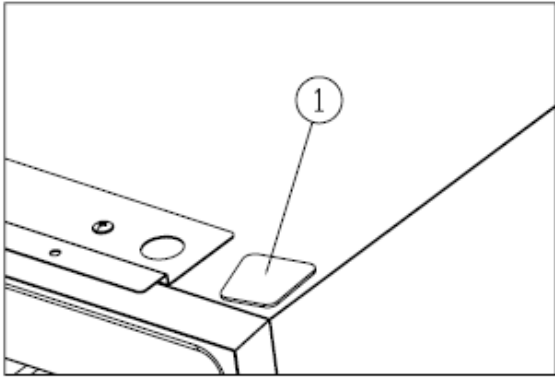

Figure 4
✧ Install the germinal lid①[Figure 4]